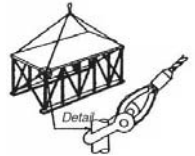

Fig. 42
- Load may be carried by only 2 legs while 3rd and 4th merely balance it. (Fig 42) Four Points Lift